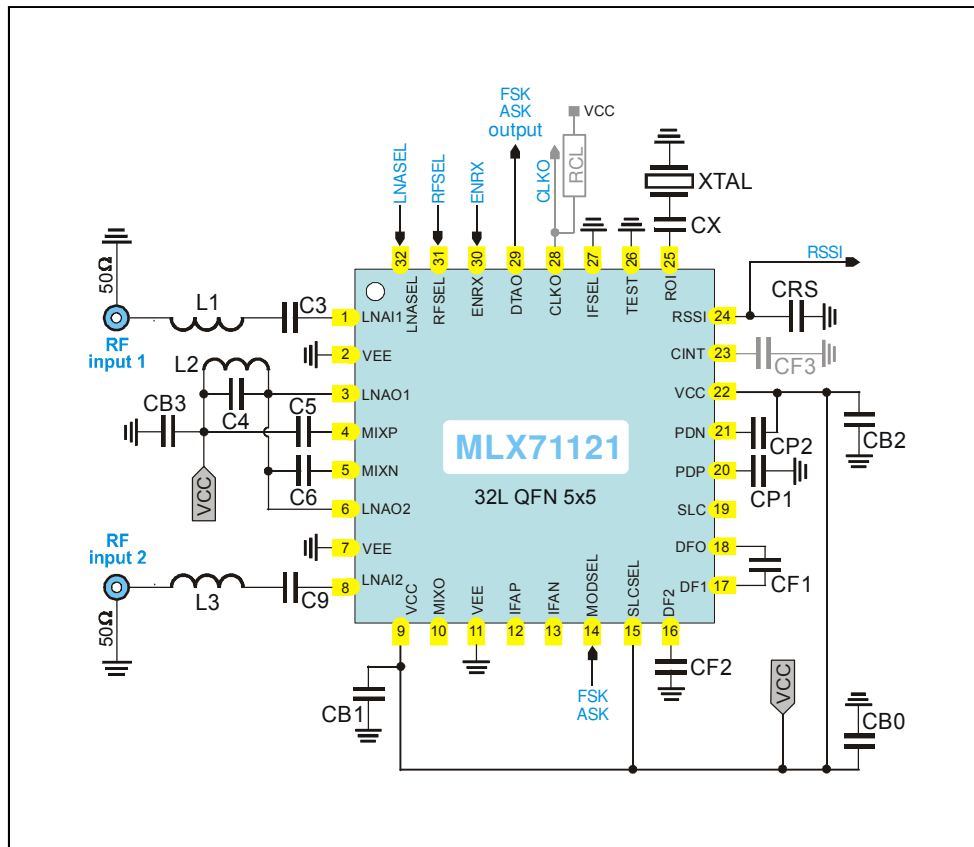

Fig. 11: Antenna diversity circuit schematic, peak detectors activated
typical values at $T_A = 23^\circ\text{C}$ and $V_{CC} = 3\text{V}$, all parameters based on test circuits as shown Fig. 11
typical values at $T_A = 23\text{ }^\circ\text{C}$ and $V_{CC} = 3\text{ V}$, all parameters based on test circuits as shown Fig. 11
5.1.1 Component List for Fig. 11